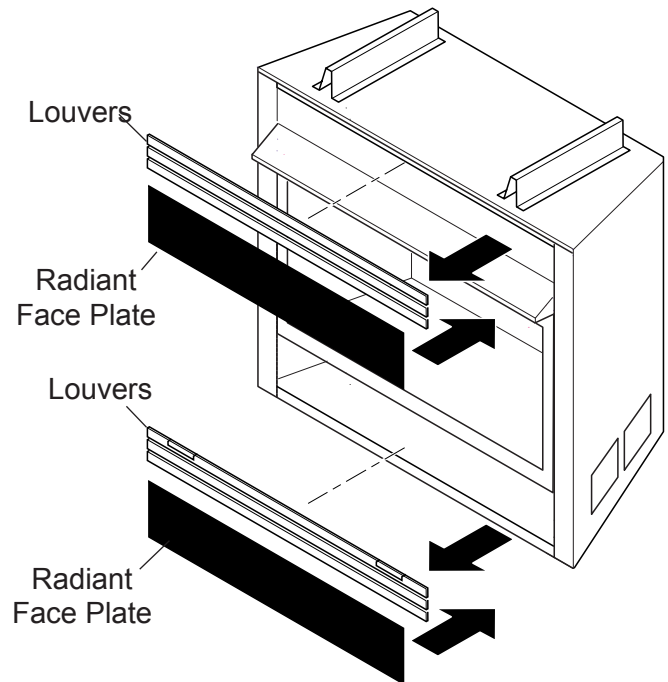

Figure 6 - Installing Radiant Face Plates
2. Snap off the three upper louvers and the three lower louvers as shown in *Figure 6*.
3. Snap on the upper radiant face plate and the lower radiant face plate as shown in *Figure 6*.